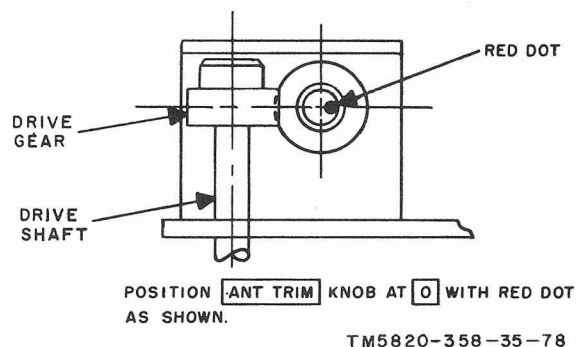

Figure 74. ANT TRIM control adjustment.
positioned as shown in figure 74 when the ANT TRIM control is set at 0.
- (1) Loosen the drive gear setscrews.
- (2) Turn the gear with the red dot to the position shown in figure 74.
- (3) Turn the ANT TRIM knob to 0 while holding the drive gear to prevent the gear with the red dot from turning.
- (4) Tighten the drive gear setscrews.